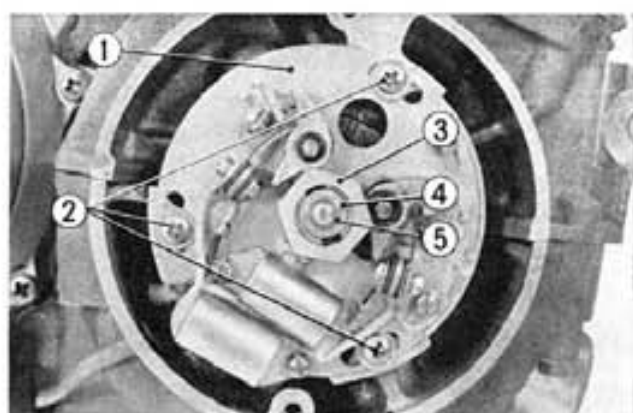

Fig. 7-18 ① Contact breaker assembly
3. Install the advancer shaft special washer, 6 mm washer and tighten 6 mm hex nut. (Fig. 7-18)